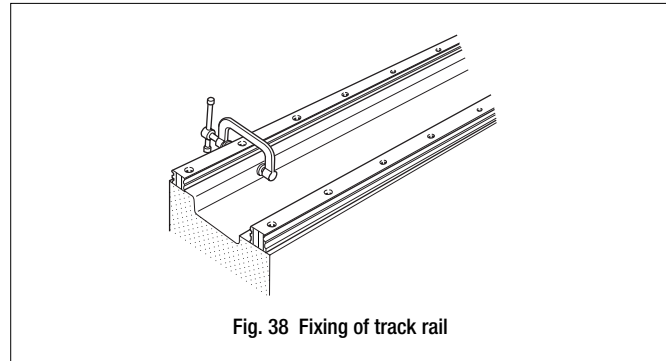

Fig. 38 Fixing of track rail
- Firmly push the reference mounting surface of Linear Way I track rail to the mating reference mounting surface of the bed using a small vise or clamp. Tighten the track rail mounting bolt at the position of the vise or clamp. Fix the track rail by progressively moving the vise or clamp from one rail end to the other. (See Fig. 38.)